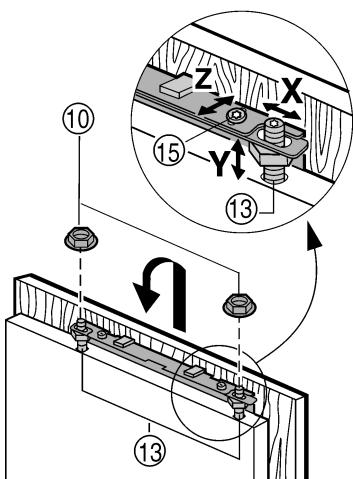

Fig. 20
- ▶ Attach the unit door on the adjusting bolts Fig. 20 (13) and loosely screw locknuts Fig. 20 (10) onto the adjusting bolts.
- ▶ To align the unit door in the **Y** direction (height) and in lateral inclination: Adjust the adjusting bolts Fig. 20 (13) with a screwdriver.
- ▶ Tighten the locknuts Fig. 20 (10).